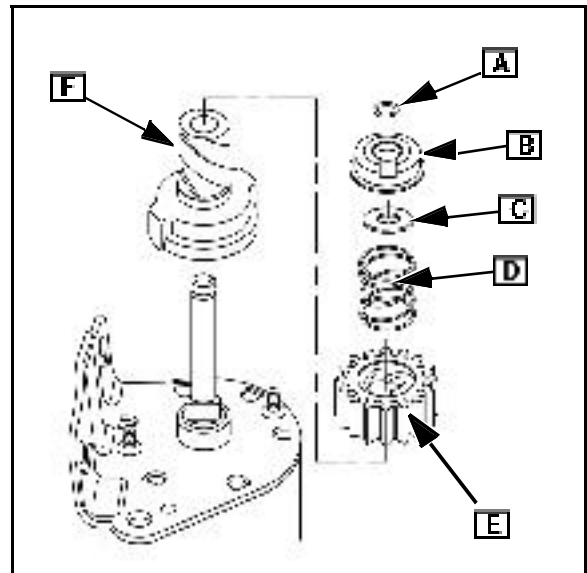

Fig. 42
2. Remove retainer (B), washer (C), return spring (D), pinion gear (E), and starter clutch ([F] Fig. 42).
1. Inspect the pinion gear ([E] Fig. 42) for damaged teeth.
2. Correct any sticking between pinion gear and starter clutch (F) helix, Fig. 42.
4. The pinion gear (E), clutch (F), and C-ring ([A] Fig. 42) are available as separate service parts from your Briggs & Stratton source of supply.
1. Place starter clutch ([F] Fig. 42) on starter shaft. Turn clutch until it drops into place.
4. Install return spring (D) making sure spring is in recess of pinion gear.
5. Place washer (C) on starter clutch splines, and install retainer (B).
6. Place new C-ring ([A] Fig. 42) over chamfered end of shaft. Press C-ring on until it snaps into groove in shaft.